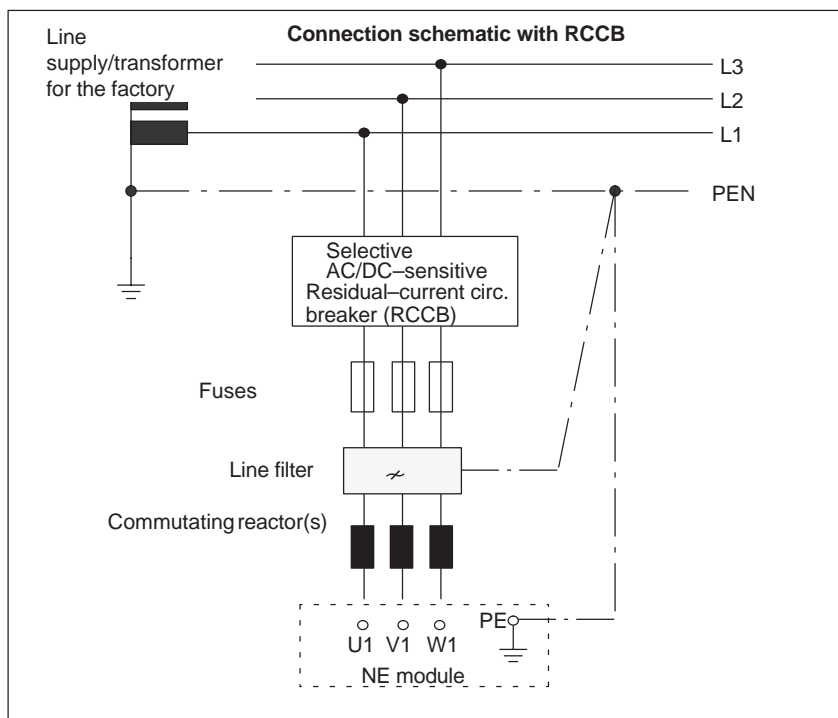

Fig. 7-1 Residual-current circuit-breaker (RCCB) connection schematic
- It is only permissible to use a delayed-tripping, (selective) AC/DC current-sensitive residual-current protective device (RCCB) (connection as shown in Fig. 7-1).